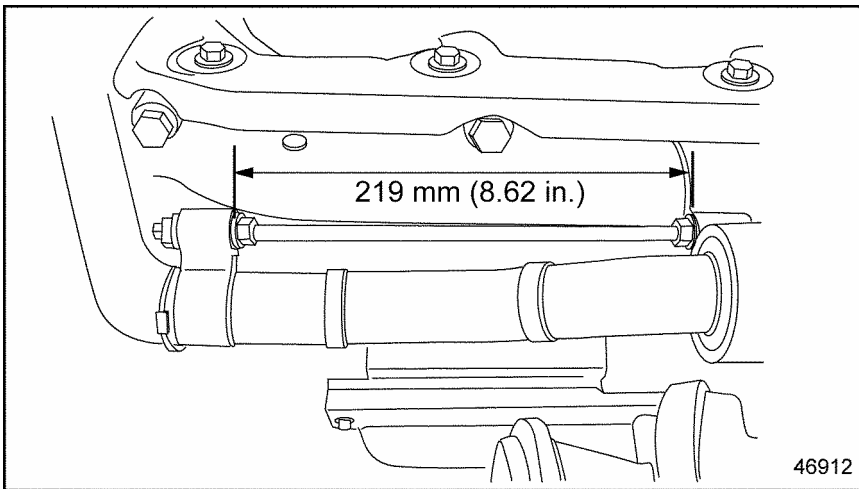

Figure 7 Stud Adjustment
18. Install the outside nut on the stud bracket and torque to 25 N·m (18 lb·ft). See Figure 7.
19. Check the length of the stud and verify it is 219 mm (8.62 in). If not, adjust the stud to 219 mm (8.62 in). Reference the *MBE4000 Service Manual* (6SE412). See Figure 7.